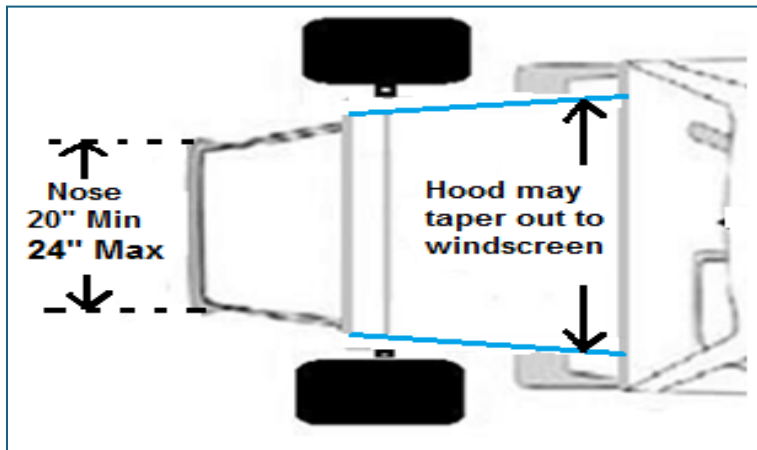

Figure 6
- 8.3 No part of the nose section (excluding bumper) can exceed 20" minimum or 24" maximum in width (*Figure 6*). (Cars manufactured prior to the 2018 production year with the narrow nose will be grandfathered. If the front clip of a narrow nosed car is replaced, it should be upgraded to a compliant size where possible.
- 8.4 The Hood section may taper out to door panels (*Figure 6*).